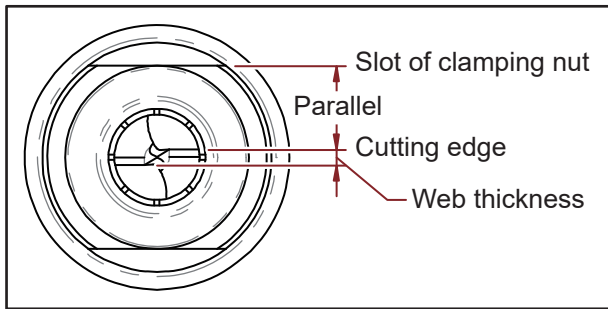

Fig. 6-4
7. After taking out the chuck set, make sure the drill's cutting edge is parallel to the slot of clamping nut. (Fig. 6-4)